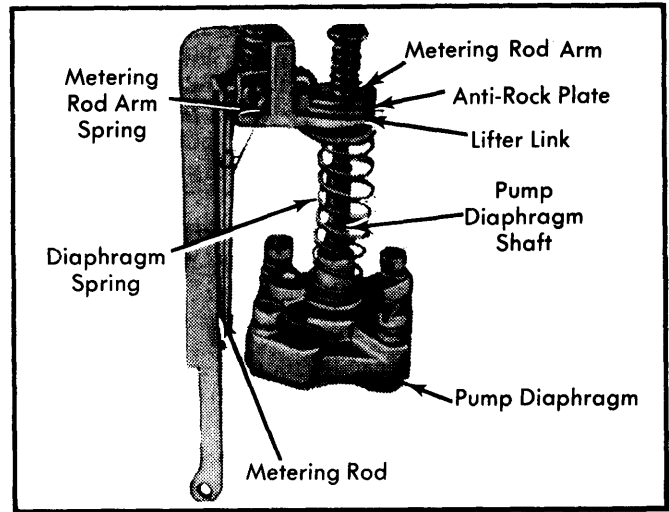

Fig. 8 Assembled View of Accelerator Pump and Lifter Link Assembly
3) Assemble accelerator pump and lifter link before installation into carburetor. During pump and lifter link assembly, place metering rod on metering rod arm and place looped end of metering rod arm spring on metering rod arm. See Fig. 8.